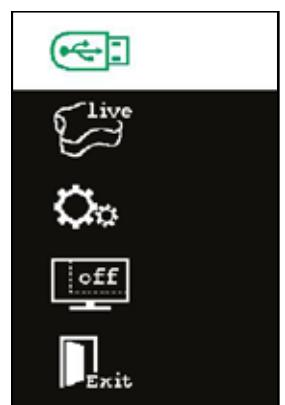

Fig. 21
- ⇒ Select the USB flash drive in the split screen main menu (Fig. 20) or the split screen sub-menu (Fig. 21).
- ⇒ Select the screenshot item in the split screen sub-menu (Fig. 21).